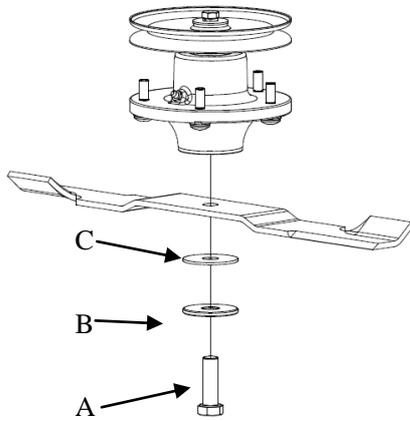

Figure 11
Remove bolt (A), which has right hand threads(Refer to Figure11),Remove lock